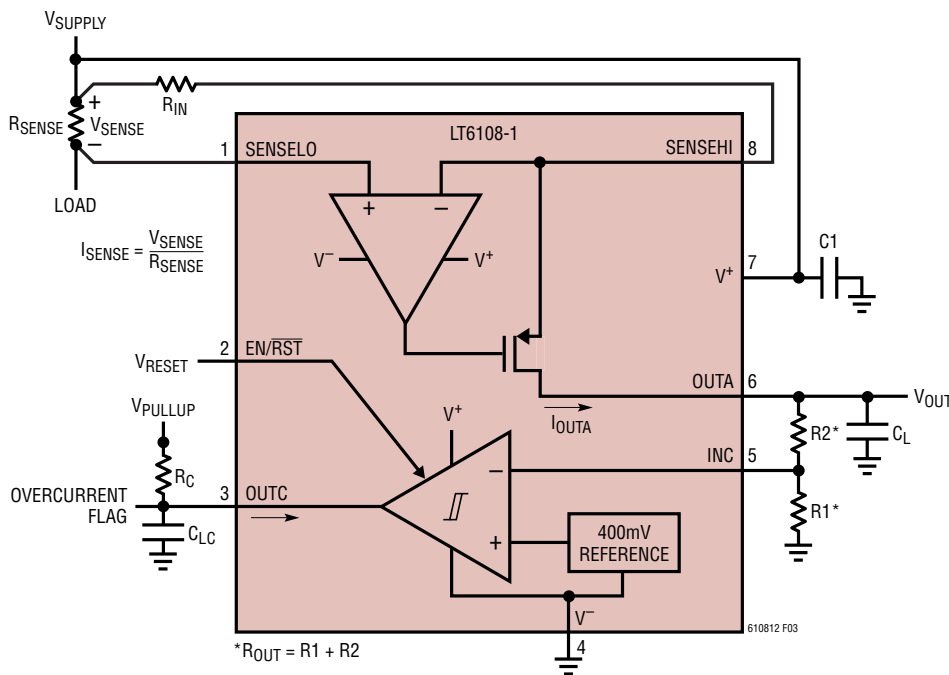

Figure 3. LT6108-1 Typical Connection
**TYPICAL PERFORMANCE CHARACTERISTICS** Performance characteristics taken at  $T_A = 25^\circ\text{C}$ ,  $V^+ = 12\text{V}$ ,  $V_{\text{PULLUP}} = V^+$ ,  $V_{\text{EN}} = V_{\text{EN/RST}} = 2.7\text{V}$ ,  $R_{\text{IN}} = 100\Omega$ ,  $R_{\text{OUT}} = R_1 + R_2 = 10\text{k}$ , gain = 100,  $R_C = 25.5\text{k}$ ,  $C_L = C_{\text{LC}} = 2\text{pF}$ , unless otherwise noted. (See Figure 3)
**TYPICAL PERFORMANCE CHARACTERISTICS** Performance characteristics taken at  $T_A = 25^\circ\text{C}$ ,  $V^+ = 12\text{V}$ ,  $V_{\text{PULLUP}} = V^+$ ,  $V_{\text{EN}} = V_{\text{EN/RST}} = 2.7\text{V}$ ,  $R_{\text{IN}} = 100\Omega$ ,  $R_{\text{OUT}} = R1 + R2 = 10\text{k}$ , gain = 100,  $R_C = 25.5\text{k}$ ,  $C_L = C_{LC} = 2\text{pF}$ , unless otherwise noted. (See Figure 3)
**TYPICAL PERFORMANCE CHARACTERISTICS** Performance characteristics taken at  $T_A = 25^\circ\text{C}$ ,  $V^+ = 12\text{V}$ ,  $V_{\text{PULLUP}} = V^+$ ,  $V_{\text{EN}} = V_{\text{EN}/\text{RST}} = 2.7\text{V}$ ,  $R_{\text{IN}} = 100\Omega$ ,  $R_{\text{OUT}} = R_1 + R_2 = 10\text{k}$ , gain = 100,  $R_C = 25.5\text{k}$ ,  $C_L = C_{\text{LC}} = 2\text{pF}$ , unless otherwise noted. (See Figure 3)
An internal sense amplifier loop forces SENSEHI to have the same potential as SENSELO as shown in Figure 3. Connecting an external resistor,  $R_{IN}$ , between SENSEHI and  $V_{SUPPLY}$  forces a potential,  $V_{SENSE}$ , across  $R_{IN}$ . A corresponding current,  $I_{OUTA}$ , equal to  $V_{SENSE}/R_{IN}$ , will flow through  $R_{IN}$ . The high impedance inputs of the sense amplifier do not load this current, so it will flow through an internal MOSFET to the output pin, OUTA.
where  $R_{OUT} = R_1 + R_2$  as shown in Figure 3.
Kelvin connection of the SENSEHI and SENSELO inputs to the sense resistor should be used in all but the lowest power applications. Solder connections and PC board interconnections that carry high currents can cause significant error in measurement due to their relatively large resistances. One 10mm  $\times$  10mm square trace of 1oz copper is approximately 0.5m $\Omega$ . A 1mV error can be caused by as little as 2A flowing through this small interconnect. This will cause a 1% error for a full-scale  $V_{SENSE}$  of 100mV. A 10A load current in the same interconnect will cause a 5% error for the same 100mV signal. By isolating the sense traces from the high current paths, this error can be reduced by orders of magnitude. A sense resistor with integrated Kelvin sense terminals will give the best results. Figure 3 illustrates the recommended method for connecting the SENSEHI and SENSELO pins to the sense resistor.